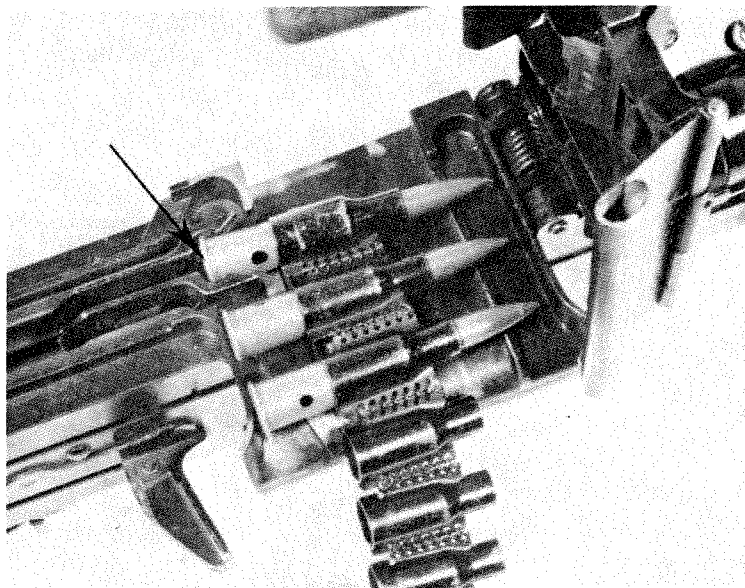

Figure 2-5. First round properly loaded.
c. Place the belt to feed from the right to the left. The solid portion of the belt will be facing up as each round enters the receiver. The belt is then placed in the feedway, coming in from the right, with the first round gripped in the claws of the cartridge gripper (fig. 2-5).